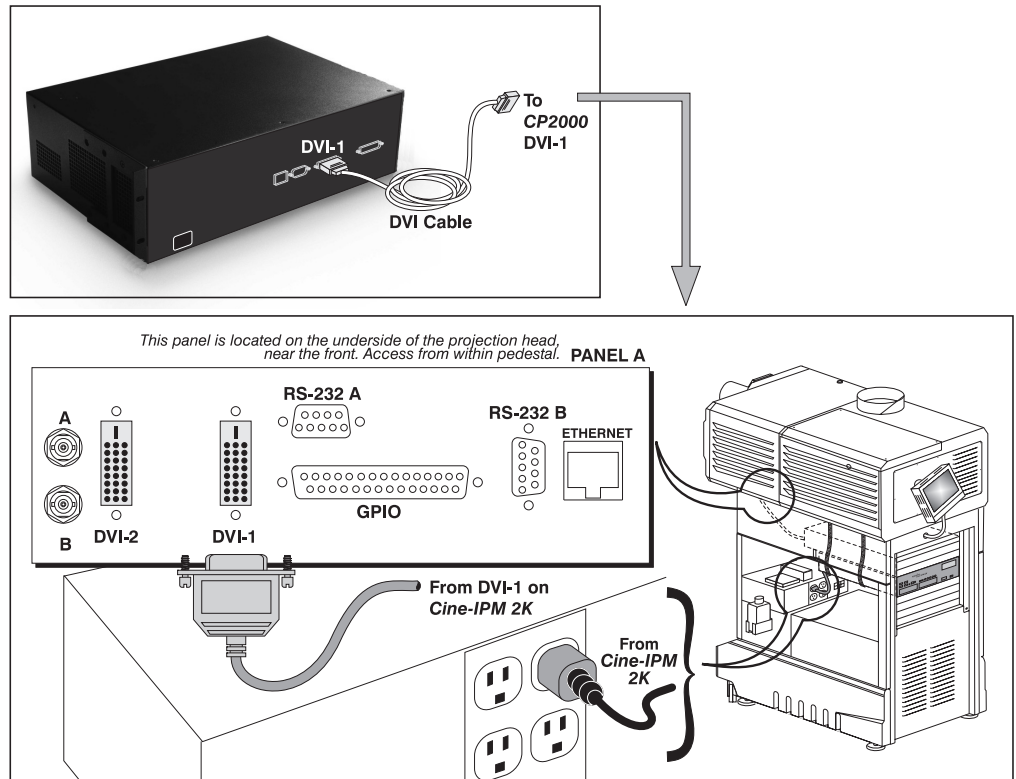

Figure 2.4. Standard DVI Connection for 8-bit Output on the CP2000
TO PROJECTOR: Connect a DVI cable between the **DVI-1** port on the *Cine-IPM 2K* rear panel and the **DVI-1** port on the *CP2000*. See Figure 2.4.
2. Connect the other end to the **RS232 B** port on the CP2000. Refer back to Figure 2.4.
Connect the Cine-IPM 2K power cord to the convenience outlet within the pedestal (refer back to Figure 2.4), or to an external supply as desired. See *Specifications* for power requirements.